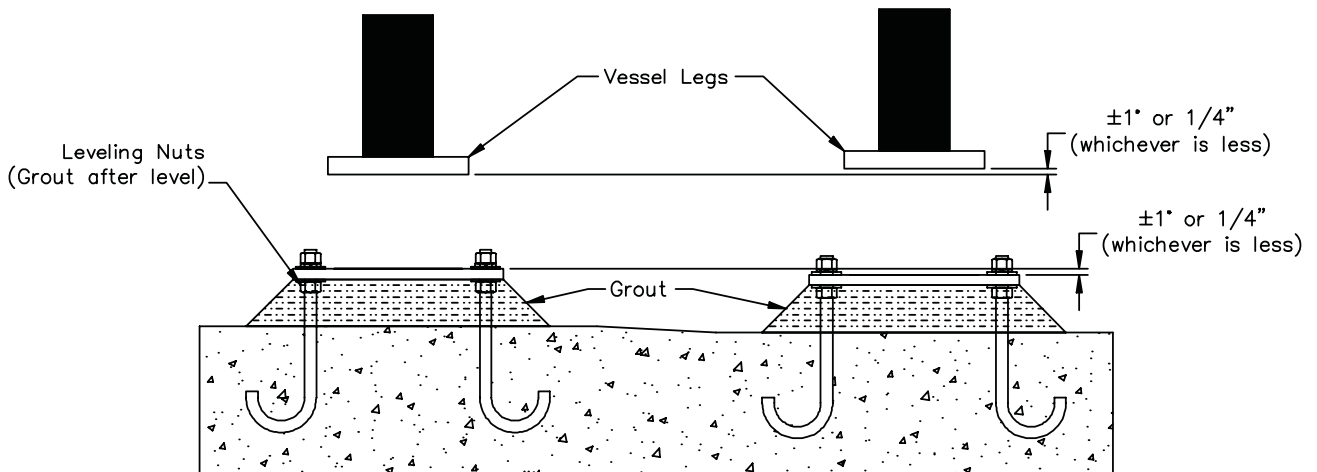

Figure 3-1: Angular misalignment
- b. Check the surfaces for flatness and angular misalignment. *A baseplate with leveling nuts is recommended.* (See Figure 3-1 below)